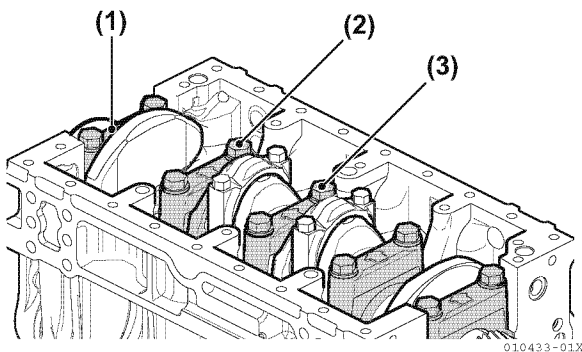

Figure 5-53
50. Remove the main bearing bolts (**Figure 5-53**).